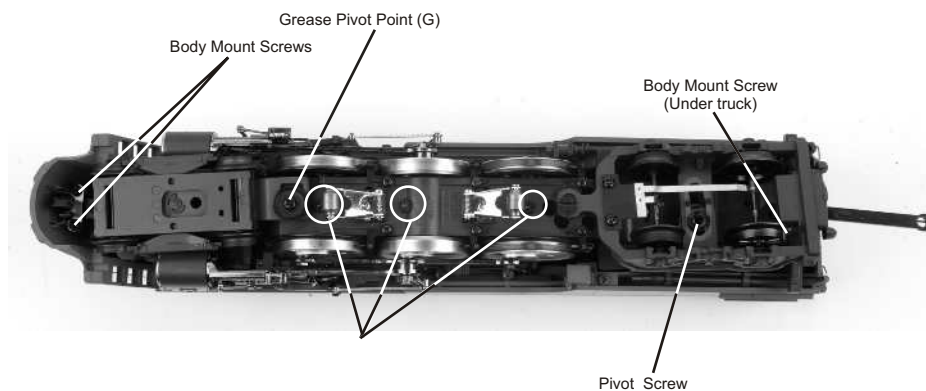

Figure 12: Lubricating The Grease Points
You should also grease the leading and trailing locomotive truck tongues to enhance their ability to slide on the chassis. Follow the grease points shown on Fig. 12.
1. Remove boiler shell by removing the 4 Body Mount Screws shown in Figure 12.
Should any of the light bulbs need to be changed, remove the boiler shell as shown in fig.12. Unplug the burned out bulb pull the bulb from the grommet that holds the bulb in place. Install the new bulb by reversing the procedure. Replacement bulbs are available directly from the M.T.H. Parts Department.